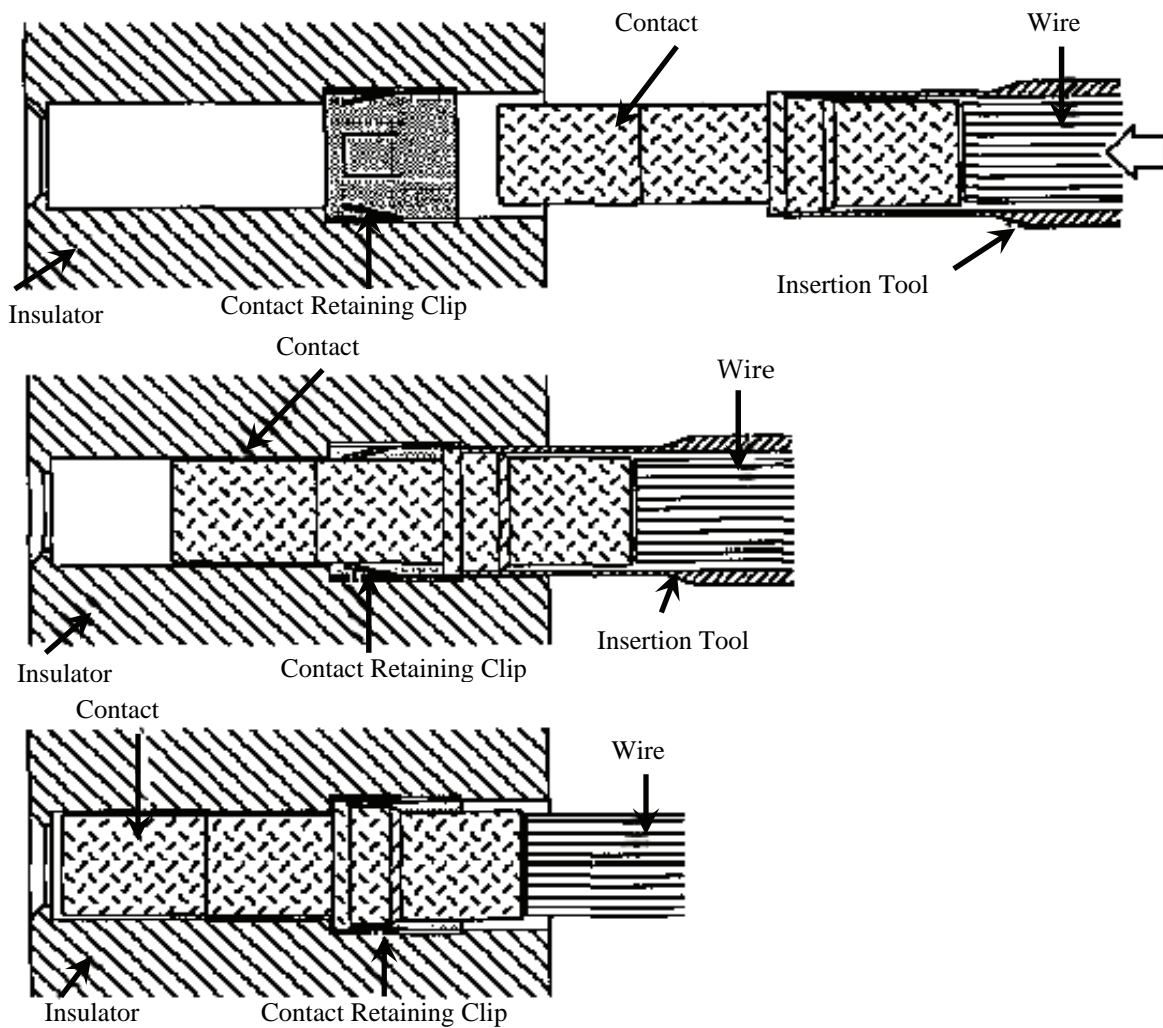

Figure 6. Contact Insertion
b. Push contact using M81969/1-04 insertion tool, into cavity until it bottoms and a click is heard (Figure 6).